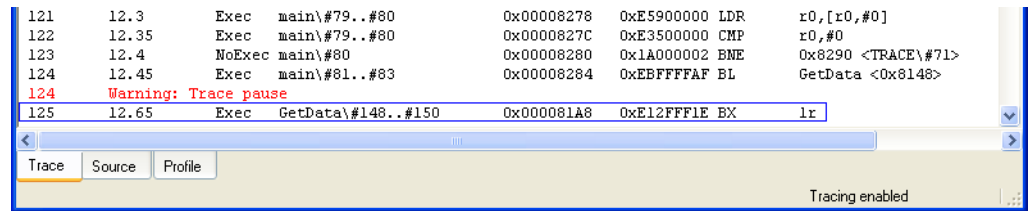

Figure 10-40 Searched function in Trace view
- All program execution from while(1) onwards is traced, except for the body of GetData().
4. Click **Find**. The first instance of GetData in the captured trace is selected. Figure 10-40 on page 10-38 shows an example: